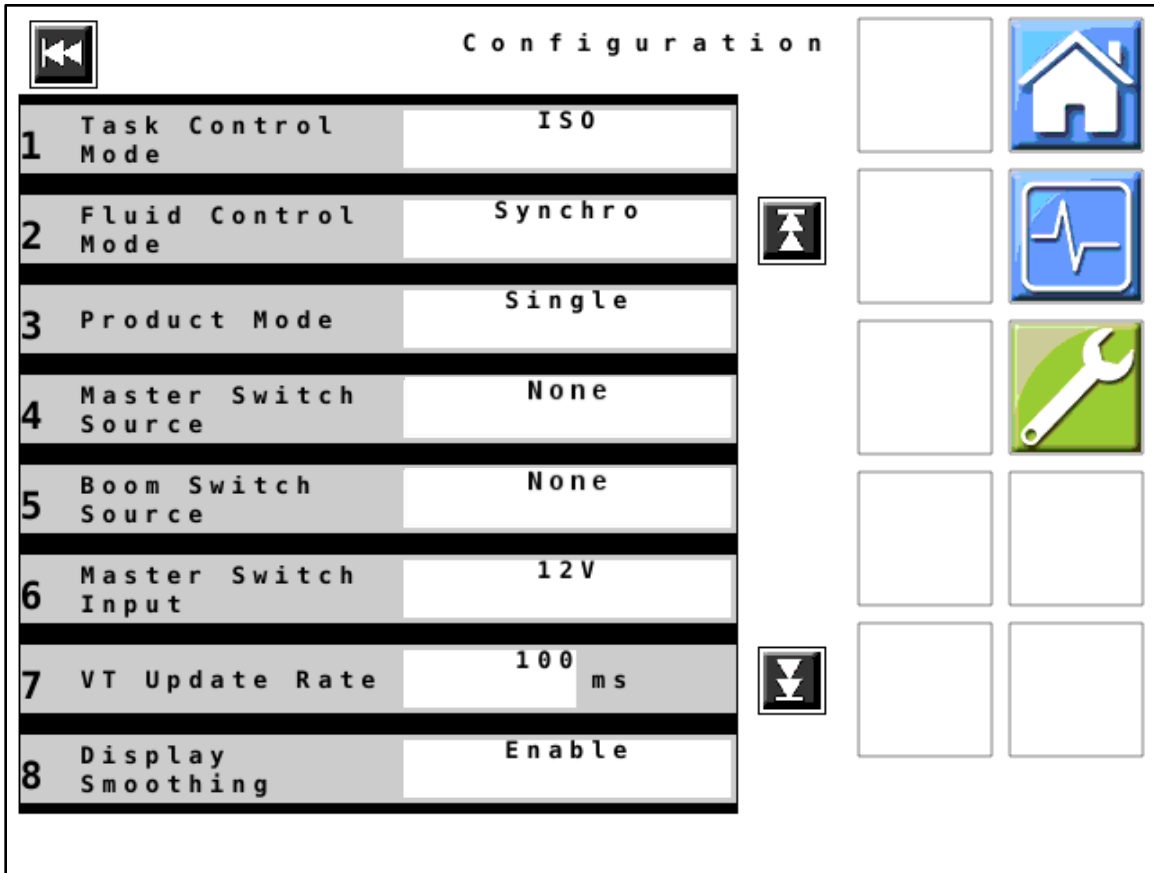

Figure 6 — Configurations Page 1
**Note:** ANYTIME you change settings, you MUST tap the **Settings** icon  to go into the **Settings** menu and select **Initial Setup > Configurations > Software Restart** to save settings. If the unit is turned off or loses battery power before this is done, the new settings will not be saved. Refer to *Figure 6* for the location of this function.
12. *Figure 6:* Verify that all values displayed on your unit match those shown here. Change values if necessary.